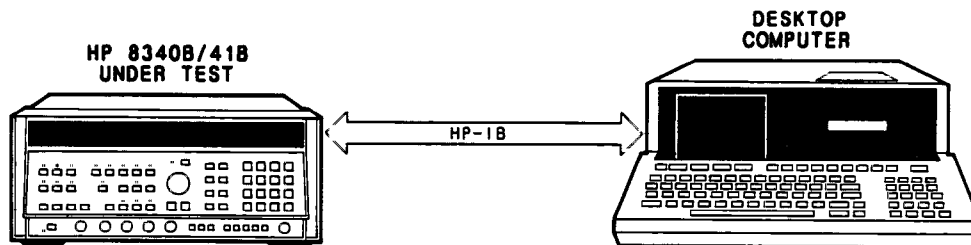

Figure 4-22. HP 8340B/41B HP-IB Operation and Verification Test Setup
1. Connect the equipment as shown in Figure 4-22. Enter the program shown in Table 4-32 if the HP 85F is used, or the program in Table 4-33 if the HP 9826A or 9836A is used. Press the RUN key. The program will display the DUT's status bytes similar to Table 4-31. After the program goes through the output loop routine about two times, all status bits should be '0' and the DUT should be in LOCAL mode (front panel REMOTE indicator not ON).